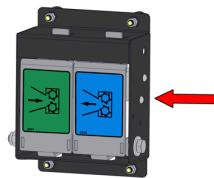

Figure 14 - Reverse Feed Control
6. Press the **BLUE** Reverse Feed Control (Figure 14).